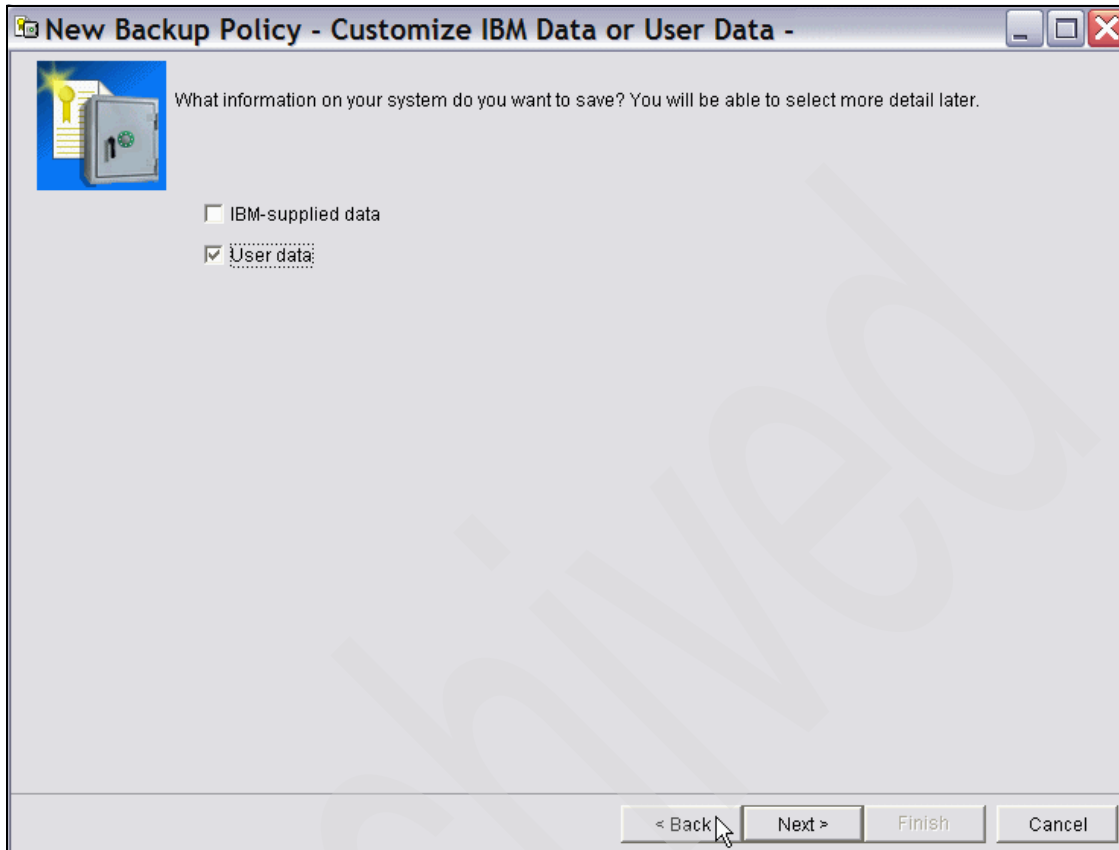

Figure 5-19 BRMS backup policy, customize data
6. In the Customize IBM Data or User Data window shown in Figure 5-19 on page 207, select **User data**, and click **Next**.